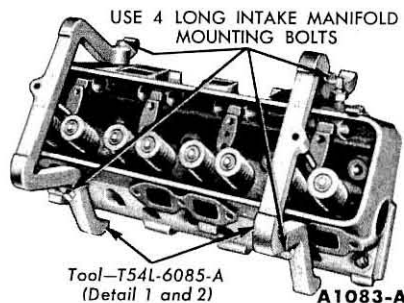

FIG. 14—Cylinder Head Fixtures
6. Remove the cylinder head bolts. Install the cylinder head holding fixtures (Fig. 14).